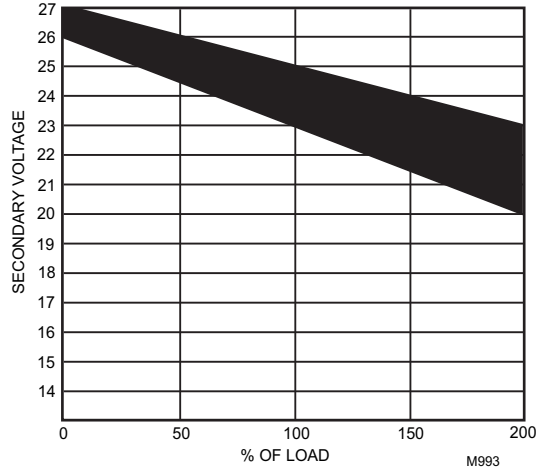

Fig. 13. NEMA Class 2 transformer voltage output limits
Fig. 13 shows this voltage load dependence.
In the preceding I x R loss example, even though the controller load is only 37 VA, a standard 40 VA transformer is not sufficient due to the line-loss. Looking at Fig. 13 a 40 VA transformer is just under 100 percent loaded (for the 37 VA controller) and has a secondary voltage of 22.9 volts. (Use the lower edge of the shaded zone in Fig. 13 that represents the worst case conditions.) When the I x R loss of four volts is subtracted, only 18.9 volts reaches the controller. This is not enough voltage for proper operation. In this situation, the engineer has three alternatives:
1. Use a larger transformer. For example, if an 80 VA model is used, an output of 24.4 volts, minus the four volt line-loss, supplies 20.4V to the controller (see Fig. 13).
To meet the National Electrical Manufacturers Association (NEMA) standards, a transformer must stay within the NEMA limits. The chart in Fig. 13 shows the required limits at various